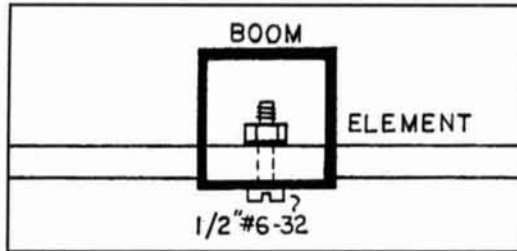

Figure 1. Element mounting detail.
The boom is made from a 6-foot length of 1 x 1 x 0.047-inch square aluminum stock, available at most hardware stores under the "MR" label. To prepare the boom, first mark its midpoint—36 inches from either end—to locate where the driven element center block will be mounted. Next, place marks—on center-line—at 32-1/2 and 34-1/4 inches from one end. Drill two 5/16-inch holes completely through the boom at these locations. These holes, spaced 1-3/4 inches apart, will accept a standard TV-type U-bolt assembly for mounting the antenna to its mast. On this same surface, drill a 5/16-inch element-mounting hole 1/2-inch from each end of the boom. Drill these holes off-center, as close as possible to the edge of the aluminum stock (see Figure 1). Now, cut the reflector and director elements from 5/16-inch thinwall aluminum tubing stock. Make the reflector 117-1/2 inches (58-3/4 inches either side of center) and the director 107 inches (53-1/2 inches either side of center). Scribe the mid-point of each to provide a centering mark for use during final assembly. The antenna's driven element is split in the mid-
Figure 1. (A) The electric displacement, shown only as a dotted line for a single value, completing the circuit between the ends of an opened-out end-fed capacitor. (B) A similar drawing for a dipole antenna that also shows a closed loop of displacement current from the previous half cycle, now untethered, moving away at the speed of light.
When we connect a transmitter to a wire dipole, we also obtain a displacement current that appears as an electrical induction field emanating at a right angle to the wire on each side of the center. Looping through the surrounding space onto the other side of this displacement current completes the current circuit (see **Figure 1**). There is also a magnetic induction field that